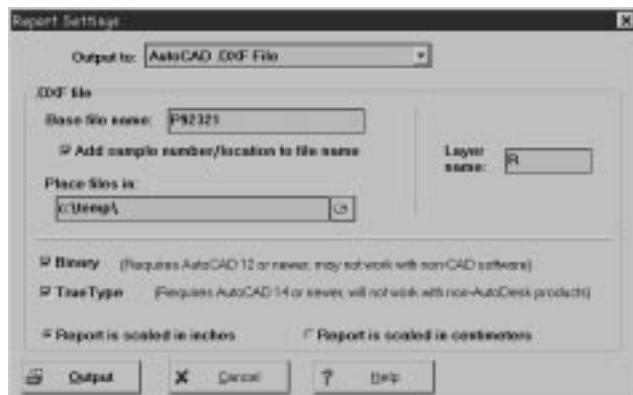

Figure 5.1.2 -- AutoCAD File Export Dialog
- ⇒ **Add sample number/location to file name** -- Without this option, R-VALUE's .DXF file names will be whatever you've selected as the **Base file name**, plus something like "page 1" at the end. Using Figure 5.1.2 as an example, if the **Add sample number/location to file name** option wasn't selected, the first chart report exported would be named **P92321 page 1.DXF**, the second chart report exported would be named **P92321 page 2.DXF** and on. A client looking at a list of submitted .DXF files would have no way of telling which .DXF file corresponds to which tested sample.